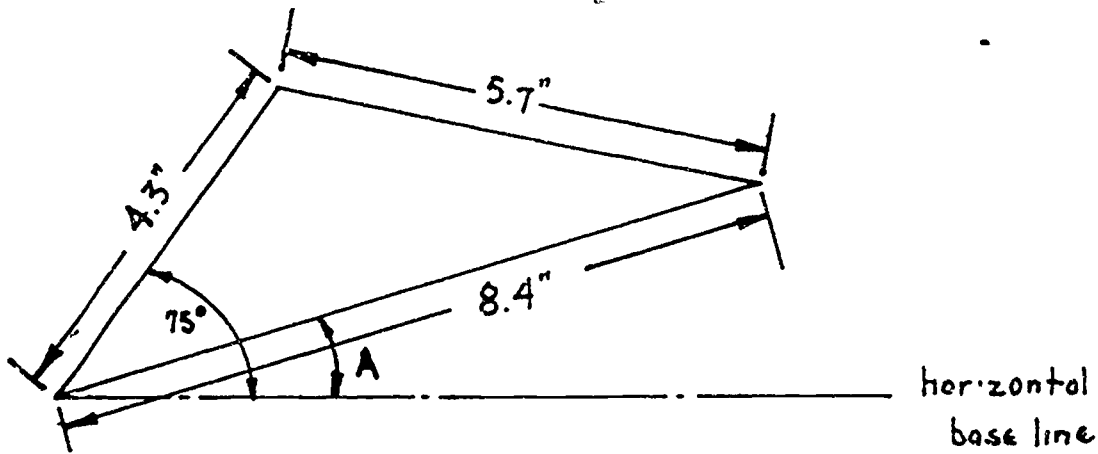

Figure 9: Find angle A.
3. You are given a triangular pattern to lay out. You know the dimensions of the three sides but your problem is how to place it with respect to a horizontal base line. You need to find angle A. Look at Figure 9.